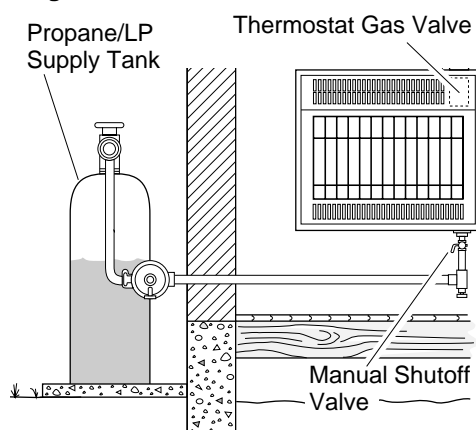

Figure 16 - Checking Gas Joints
3. Check all joints from propane/LP supply tank to manual shutoff valve (see Figure 16). Apply mixture of liquid soap and water to gas joints. Bubbles forming show a leak.
4. Check all joints from manual shutoff valve to thermostat gas valve (see Figure 16). Apply mixture of liquid soap and water to gas joints. Bubbles forming show a leak.